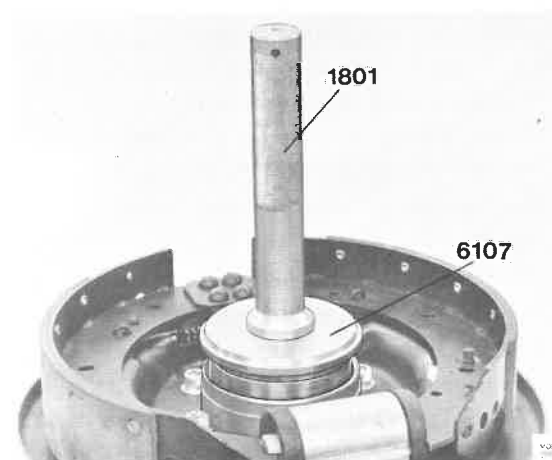

Fig. 77-17. Installing the outer bearing outer ring
10. Press on the outer bearing outer ring with drift 6107 and standard handle 1801, see Fig. 77-17.